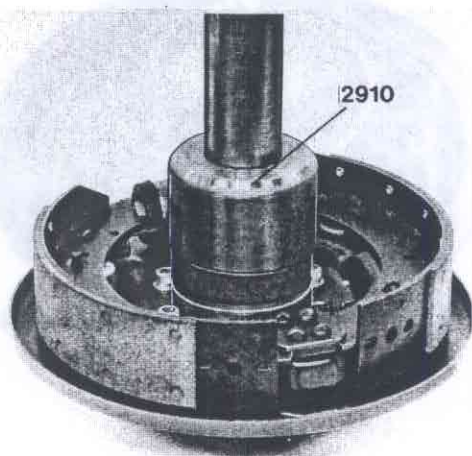

Fig. 77-18. Installing the outer sealing ring
11. Press on the outer sealing ring with sleeve 2910, see Fig. 77-18.
6. Press on the outer sealing ring with sleeve 2910, Fig. 77-18.